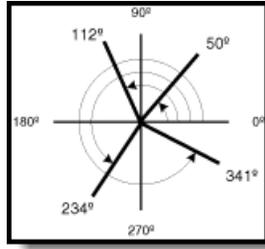

Figure 153: ArcMap Polar Angles
- Polar angles are measured counterclockwise from the positive x-axis, as shown in Figure 153.